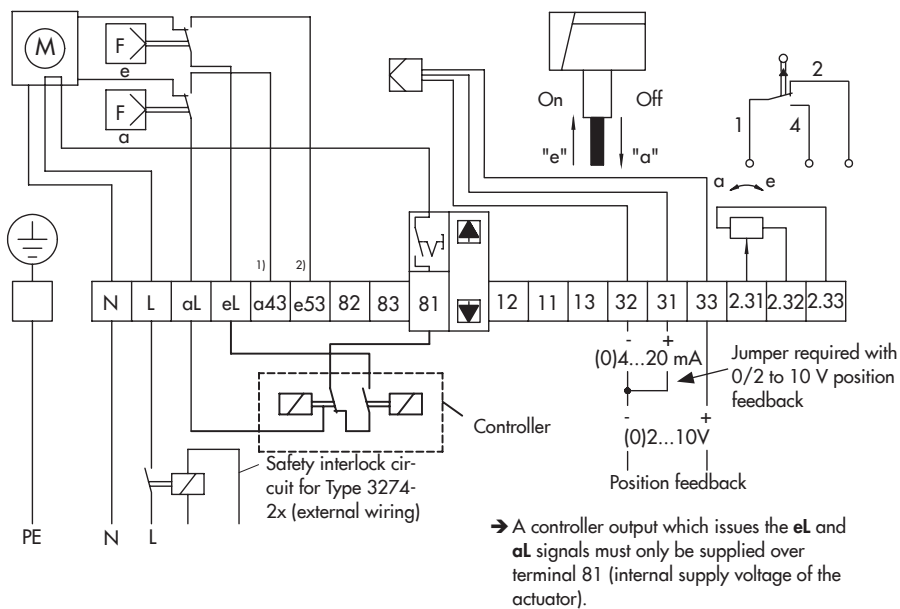

**Fig. 4:** Electrical connection for three-step control
**Electrical connection (see Fig. 4 to Fig. 6)**
Figs. 4 and 6 schematically illustrate the different means of connection, depending on how the version is equipped. The mechanical limit contacts are provided with screwed connections. They are connected directly, not over the terminal block.